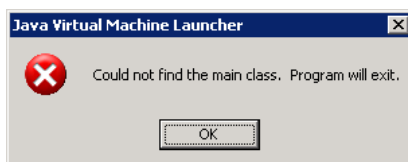

Figure 75. Java Error Dialog – Could not find the main class.
- If you get the error dialog shown in Figure 75 (“Could not find the main class.”), there may be a problem with the installation of Sun’s Java Runtime Environment (JRE) on your computer.